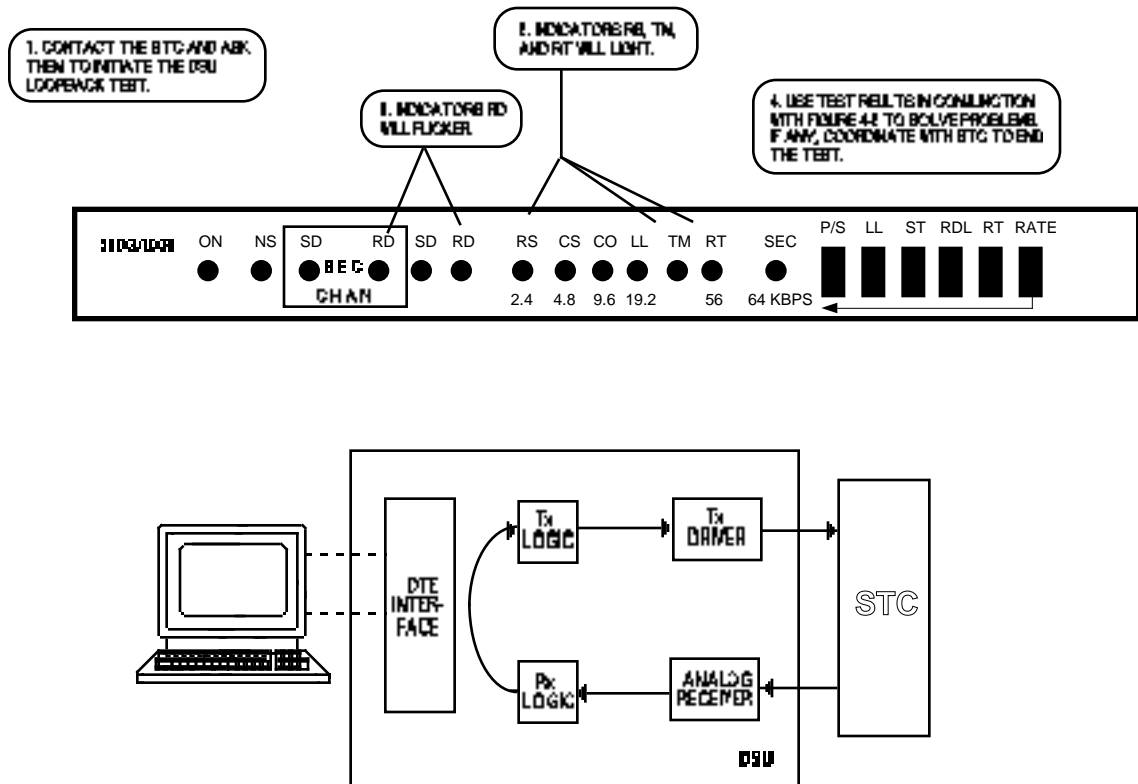

FIGURE 4-17. REMOTE TERMINAL TEST, STC CONTROLLED
The Remote Terminal (RT) test is a remotely controlled diagnostic that is initiated by network codes from the STC. When the test is initiated, the DSU transmitter input and receiver output are disconnected from the DTE interface and connected together, creating a circuit that loops the receiver's digital output signals to the transmitter's input. Figure 4-17 illustrates RT.